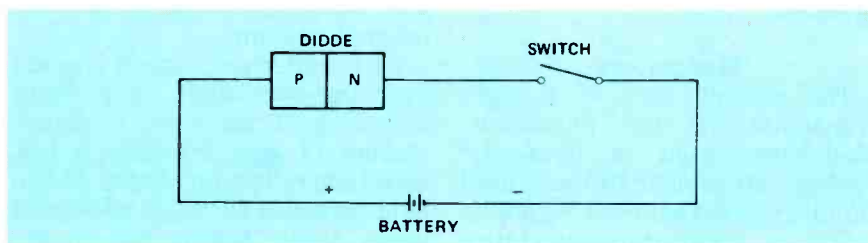

Figure 1. Junction diodes are made from positive (P) and negative (N) semiconductor material.
As shown in Figure 1, junction diodes are made from two kinds of semiconductor material: a positive (P) type that has a deficiency of electrons in its atoms and a negative (N) type that has an excess of electrons in its atoms. If a positive voltage is connected to the P-type material and a negative voltage is connected to the N-type, forward bias is applied to the diode and current will flow through it. The amount of current is determined by the amplitude of the applied voltage.